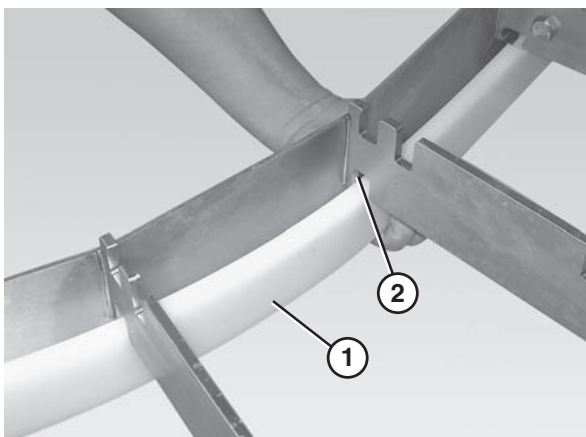

Figure 33
1. Insert the inside return bottom wear strip (Figure 33, item 1) into the slots (Figure 33, item 2) on the lower inside section of the frame (figure shown without the belt or wear strips).
2. Attach the chain return shoes (Figure 33, item 1) to the curve return shafts (Figure 33, item 2).